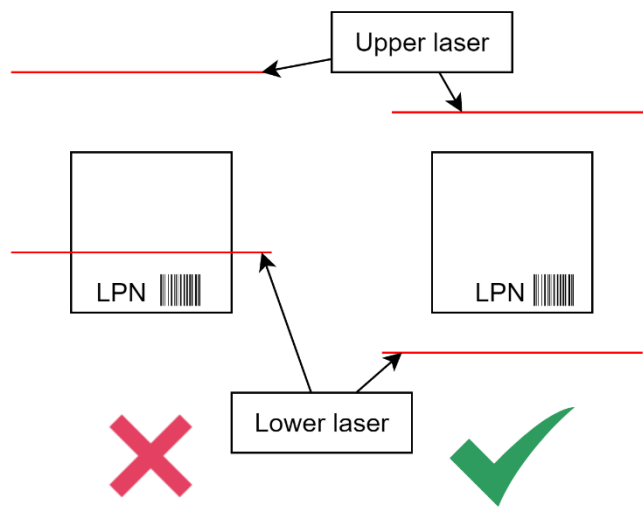

FIGURE 2-14 - FIELD OF VIEW & POSITIONING
- d. Ensure License Plate Number (LPN) is inside the field of view (FoV) indicated by the projected laser lines see Figure 2-14 - Field of view & positioning.
7. Adjust the height of the recording unit, to ensure the License Plate Numbers on the new level are covered by the FoV for the camera, shown by the lasers, see Figure 2-14 - Field of view & positioning.